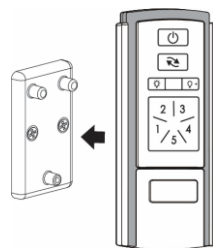

Fig. 22
4. Snap the transmitter onto the bracket by aligning the 3 posts on the bracket to the holes on the transmitter (Fig. 22).